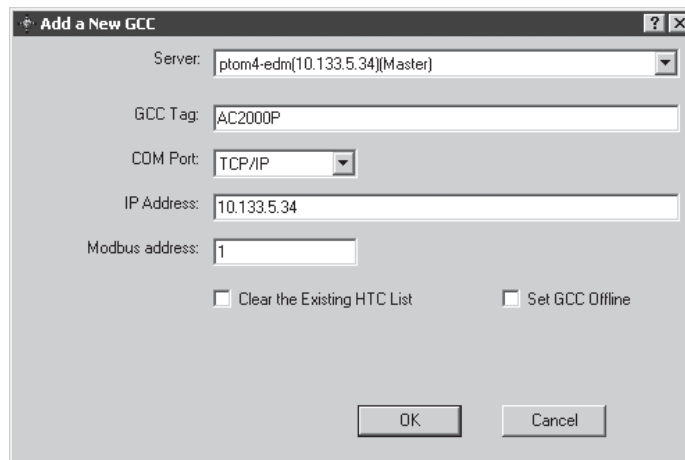

Figure 1-4 Add a new GCC
2. Fill in the GCC Tag, COM Port, IP Address, and Modbus Address field. In the Modbus Address field, you must enter an address of 1. This address is fixed in the Simulator as the identifier for an AC2000+ GCC (see Figure 1-4). Remember to use the IP Address obtained from the Simulator main screen as the IP Address (see Section 1.3 above).